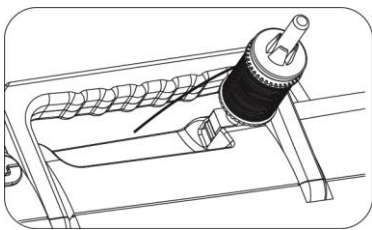

Fig.27
1. Put a spool of thread on spool pin. (Fig.27)